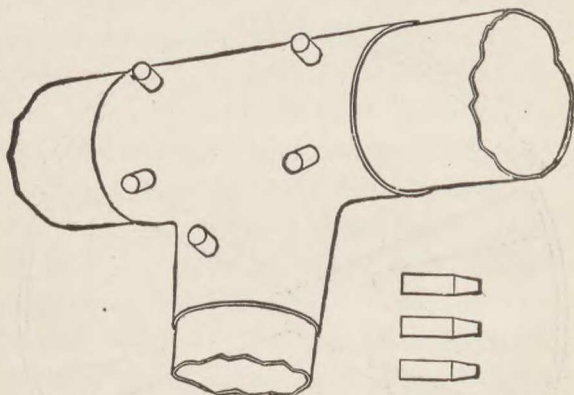

Fig. 39.—Joint Pegged for
**Bridge Tubes.**—Fit the short stay tubes to the top bridge in a similar manner, and knock the short bottom-bridge tubes on the bridge lugs. These joints are now ready for brazing, if they are all a good knock-on fit; but if any of them are loose and likely to move, drill and peg with a piece of wire or brazing peg. Cobbler's round heel brads make very good brazing pegs (see Figs. 39 and 40).